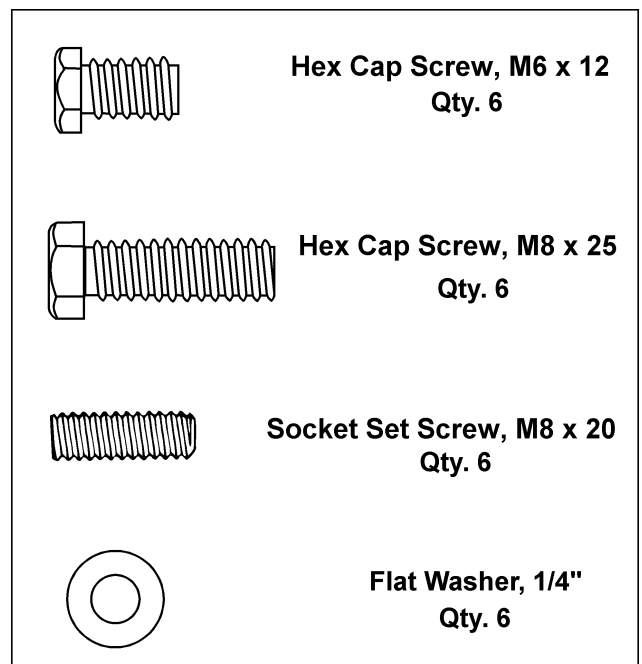

Fig. 4
*Contents of hardware bags are drawn full scale in Fig. 4.